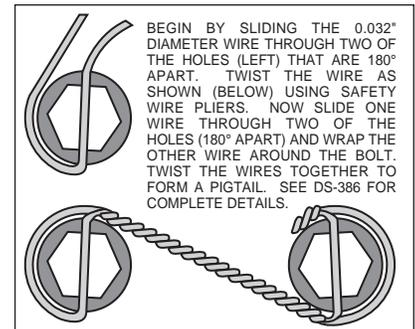

Figure 6. Safety Wire Diagram
•Bolt the hat (2) to the rotor (3) using washers (4) and bolts (5). Torque bolts (5) to 180 **in-lb**. Safety wire bolts (5) using standard 0.032 inch diameter stainless steel safety wire as shown in Figure 6. Please refer to Wilwood's data sheet DS-386 (available at www.wilwood.com/Pdf/DataSheets/ds386.pdf) for complete safety wire installation instructions.
•Align the correct hole pattern in the hat (2) with the stud pattern on the axle flange. **NOTE:** Some OEM and after market axles come with stud sizes larger than 0.50" diameter. Verify stud size and have a qualified machine shop drill the hats to the correct size. Slide the hat/rotor assembly (2 and 3) over the wheel studs and against the axle flange face.
•**NOTE:** Please reference the caution statement at the beginning of the assembly instructions. WITH THE BLEED SCREWS POINTING UP, mount the caliper (6) over the rotor (3) and onto the caliper mounting bracket (1) using washers (7) and mounting bolts (8). View the rotor through the top opening of the caliper. The rotor should be aligned in the center of the caliper. If not, adjust the caliper by using 0.032 inch shim washers (9), placing them between the caliper mounting bracket (1) and the caliper (6). Apply red *Loctite*® 271 to the mounting bolt threads (8), torque bolts to 30 ft-lb. Safety wire the caliper mounting bolts (8).
•Position the Wilwood disc brake pads (10) into the caliper (6) and fasten with cotter pin (11). Steel backing plate side of brake pad should face the caliper pistons.